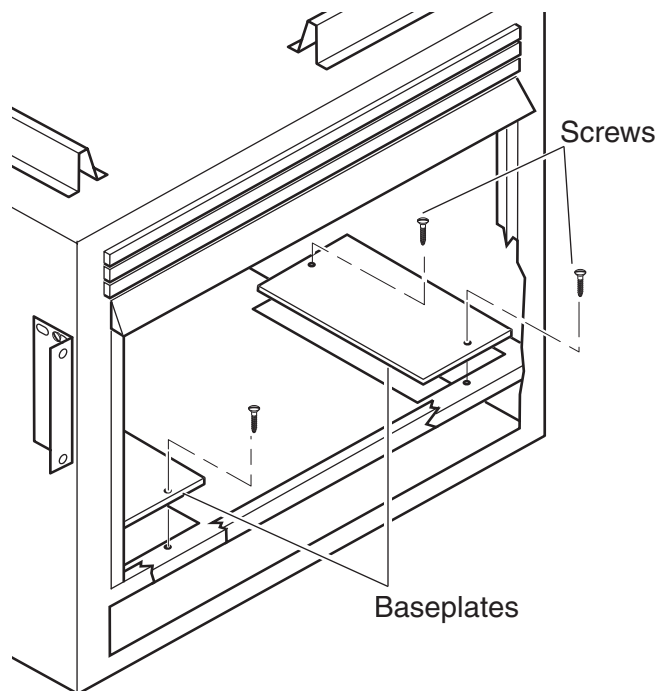

Figure 15 - Removing Baseplates
5. Remove two baseplates from bottom of firebox. *See Figure 15.*